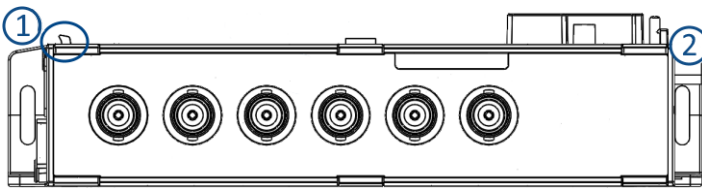

Fig. 3: Locking tongue & locking latch
1. Hook tongues into the grooves, see Fig. 3 Position (1) "tongue".
2. Pull tongues, see Fig. 3 position (1) out of the grooves.